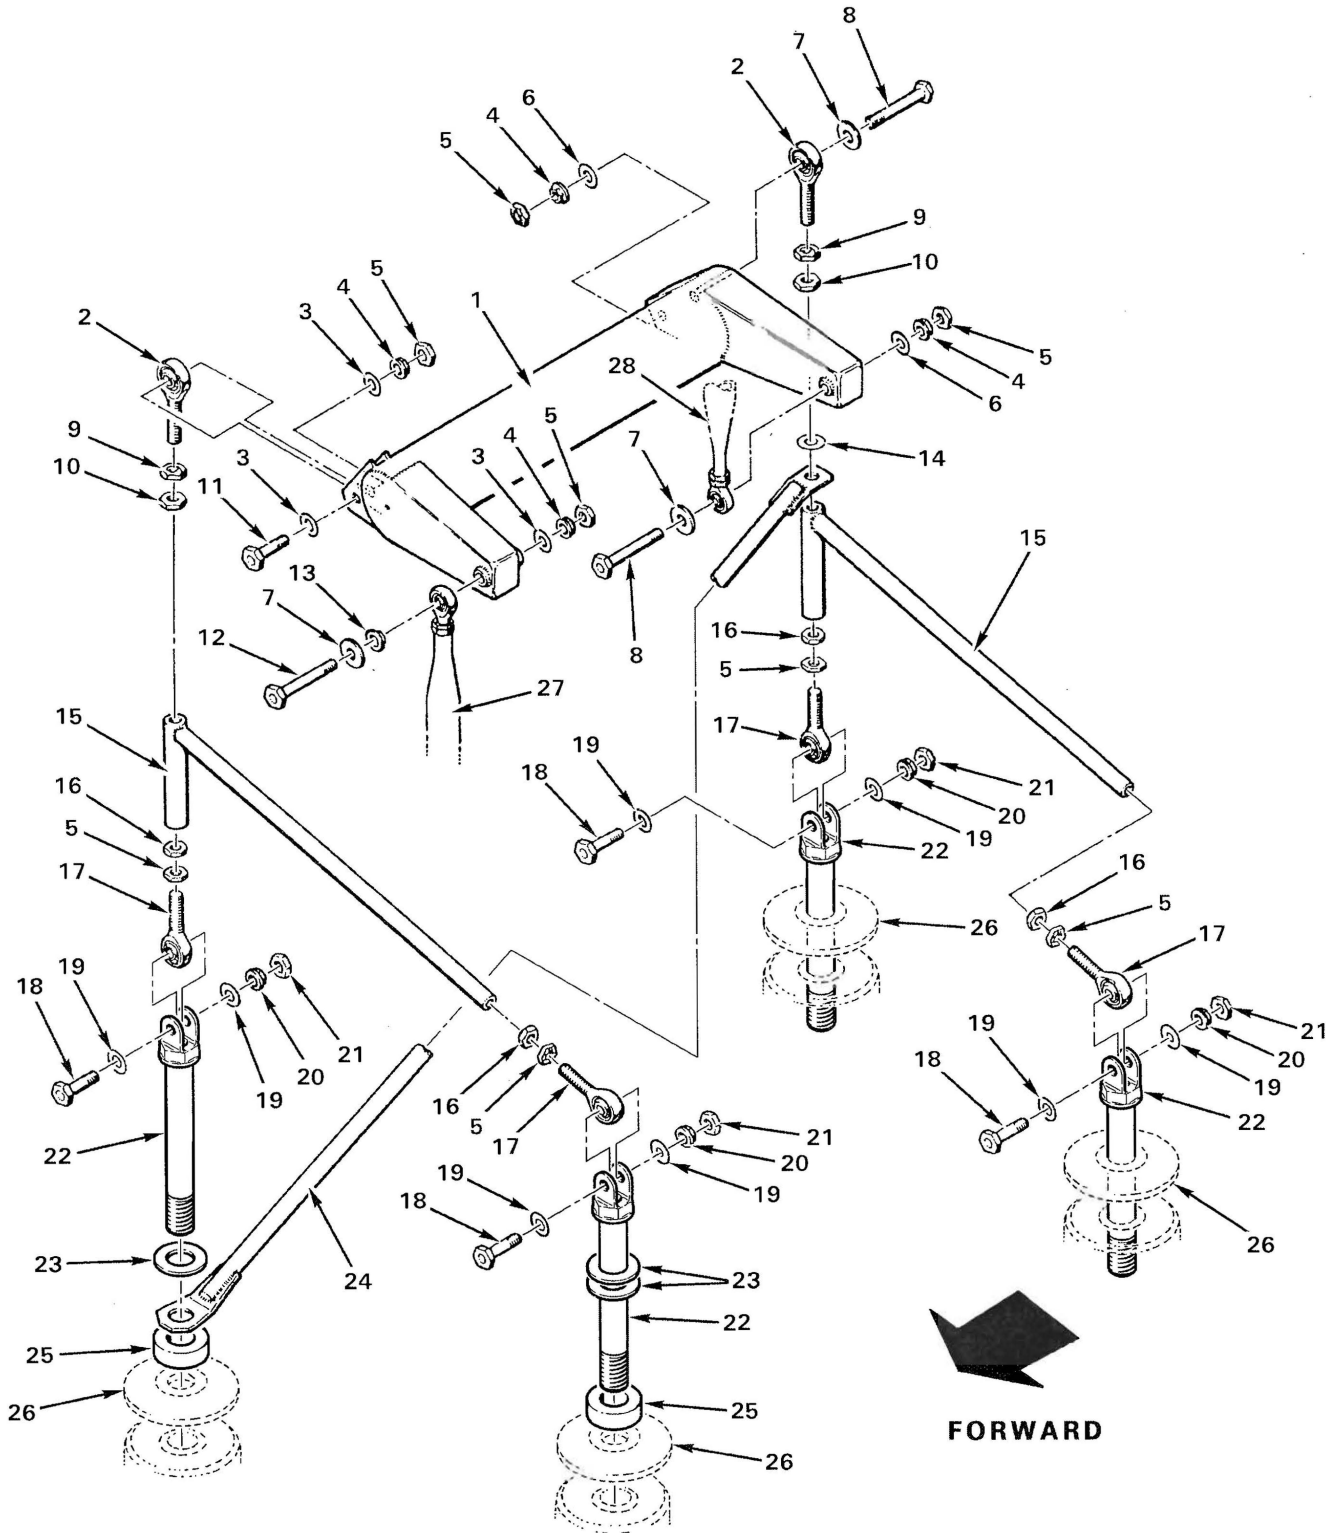

FIGURE 8-9 JACKSHAFT INSTALLATION
#### 8.310 Jackshaft (See Figure 8-9)
**8.322 Jackshaft Strut Installation (see Figure 8-9)**
- a) Install lower rod ends to the main rotor gearbox fittings as shown in Figure 8-9.
- b) Reinstall the aft vertical strut upper rod end as shown in Figure 8-9. The rod end extension must be set to  $0.93 \pm 0.03$  inch from the end of the strut to the center line of the rod end ball. (The dimension is the same for all six support rod ends.)